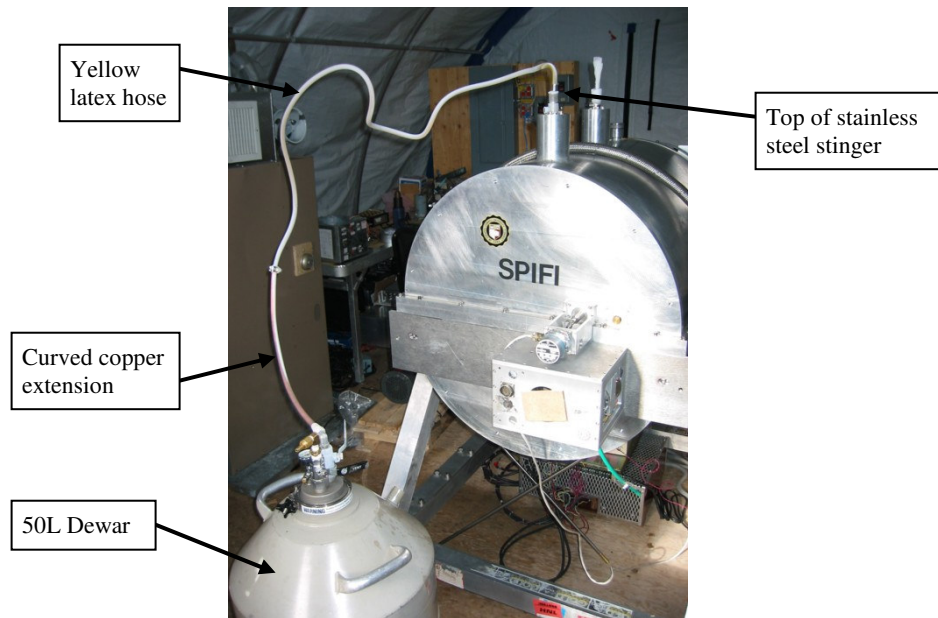

Figure 11: Filling SPIFI's I-N₂ Tank from the 50L Dewar
1. Attach the curved copper extension onto the 50L I-N₂ Dewar using a crescent wrench. Next, attach the yellow latex hose---with the stainless steel stinger on the other end---to the end of the copper extension using a hose clamp. (Note that if the yellow latex hose is too stiff in the Antarctic winter you may need to switch to Teflon). The copper extension should be rotated so that it curves upwards. (See Figure 11 below.)
- to switch to Teflon). The copper extension should be rotated so that it curves upwards. (See Figure 11 above.)
- Lift the 50L Dewar up and set it into the enclosure on the battery box side of SPIFI (or alternatively jack it up on the lift on the outside of the enclosure). **Do not pull or push on SPIFI** or the SPIFI alignment table (32) while doing this, or we could lose our alignment to the telescope. Rotate the Dewar so that the copper extension is pointed upwards and towards the telescope wall of the enclosure (front of SPIFI).
- Open the roof hatch above SPIFI's nitrogen neck (30). This is the larger hatch (closest to the telescope side of the enclosure).